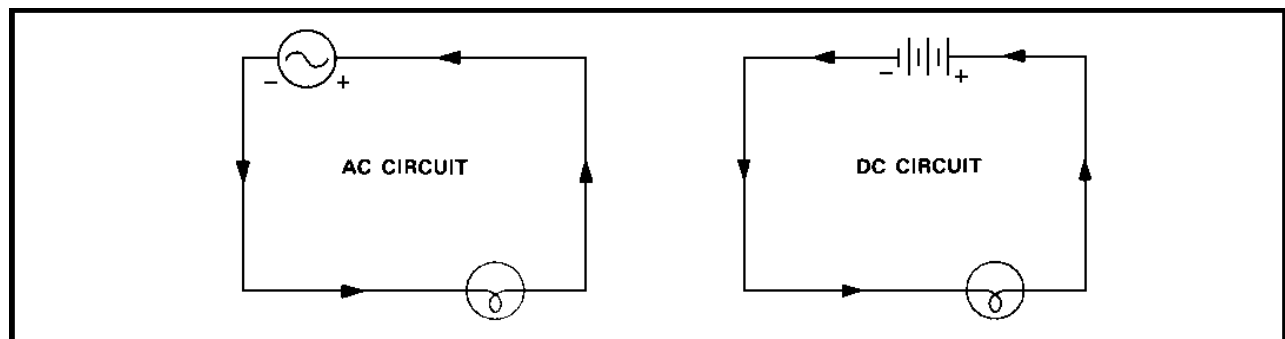

Figure 3-1. AC and DC Circuits.
In an alternating-current (AC) circuit, the electrons move through the circuit in one direction for a short period of time, and then move back in the other direction for a like period of time, changing direction at definite intervals. It is this characteristic that gives it its name. The electrons also move toward a point of higher potential, but this point changes from one side of the circuit to the other. In other words, the polarity of the applied alternating voltage changes causing the direction of current flow to change. The two systems are illustrated in figure 3-1.